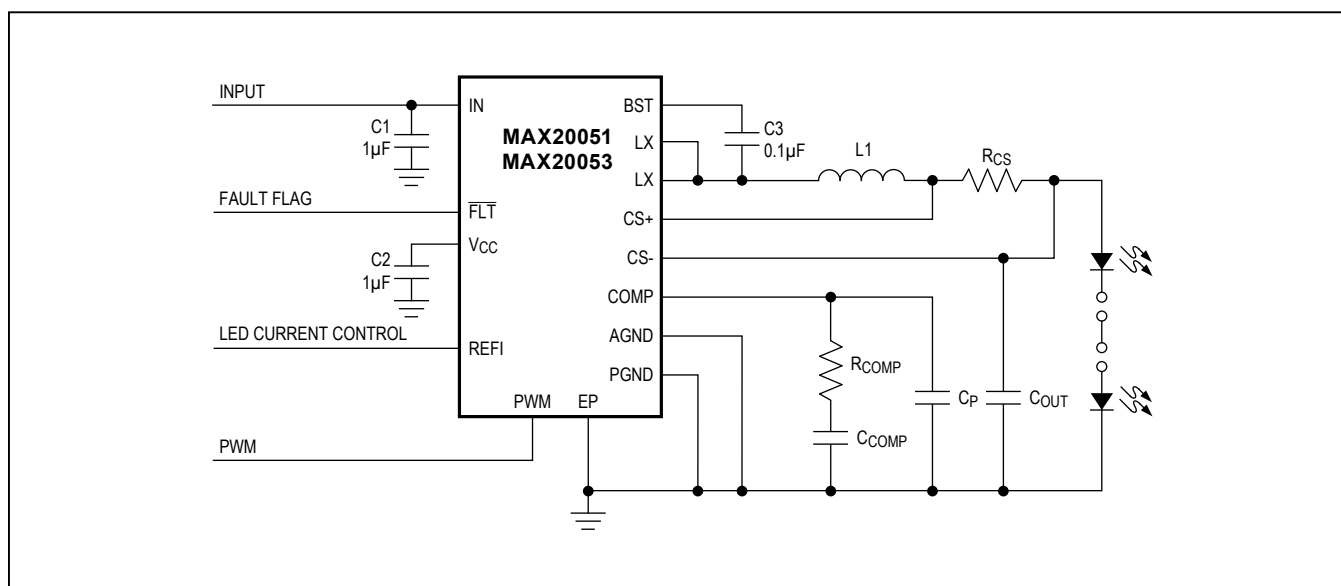

Figure 4. Typical Application Circuit Using the MAX20051
Normal sensing of the LED current should be done on the high side where the LED current-sense resistor is connected to the inductor. The other side of the LED current-sense resistor goes to the anode of the external LED string. The LED current is programmed using R_{CS} (see Figure 4). When REF1 is set to a voltage >1.3V, the internal reference regulates the voltage across R_{CS} to 220mV. The current is given by:
The MAX20050/MAX20052 have internal loop compensation and there is no user-available adjustability of the loop compensation components. In the case of the MAX20051/MAX20053, an external COMP pin is present and an external compensation network is required for stable operation. See Figure 4 for the typical application circuit using the MAX20051.
- 1) Large switched currents flow in the IN and PGND pins and the input capacitor C1 of Figure 4. The loop formed by the input capacitor should be as small as possible by placing this capacitor as close as possible to the IN and PGND pins. The input capacitor, device, output inductor, and output capacitor should be placed on the same side of the PCB and the connections should be made on the same layer.